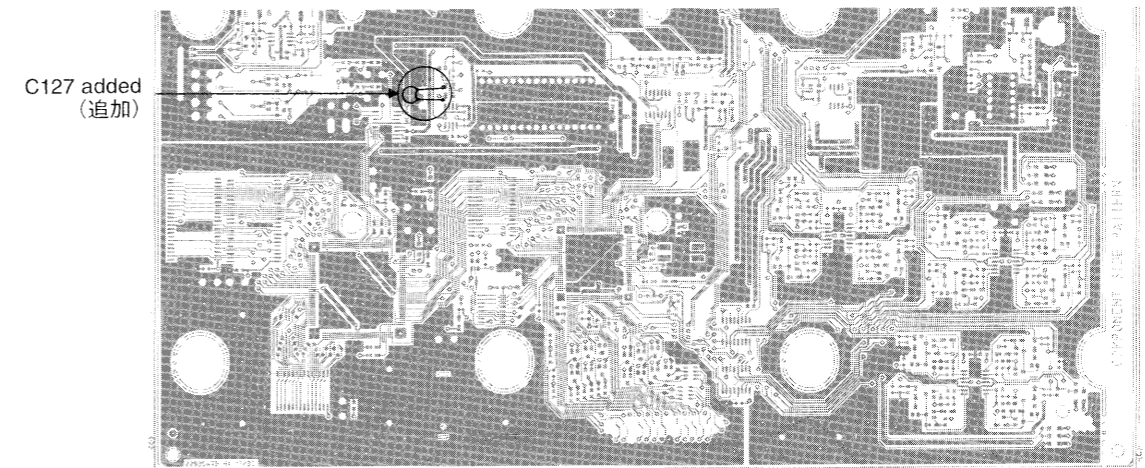

Fig. 3 (図3)
- C127 100pF (See Fig.3)
C127 100pF (図3参照)